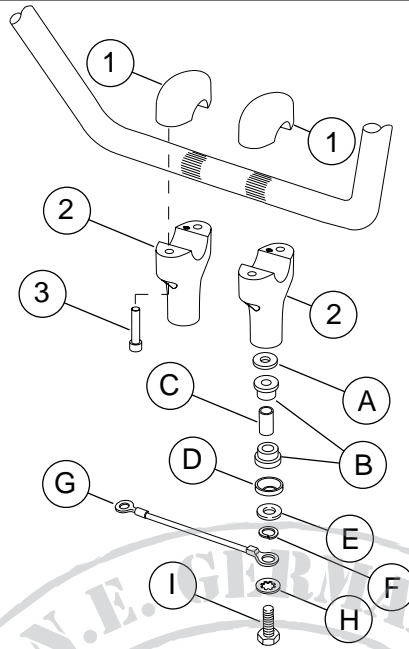

Figure 1. Service Parts for Fat Bar Riser Kit
See Figure 1 and Table 1.
*The upper cup washer (A) must be oriented with the flat side up and the lower cup washer (D) with the flat side down.*
*See Figure 1 for the following procedure.*
1. Align the components as shown, and install the risers (2) to the upper fork bracket. The ground wire (G) and the internal tooth lock washer (H) are located on the right side only. Do not tighten the riser mounting screws (I) at this time.
3. Loosely install riser caps (1) onto the handlebars and risers using four socket head screws (3) as shown.
4. Ensure that the risers stay properly aligned with the handlebar and tighten the riser mounting screws (I) to 50-60 ft-lbs (68-81 Nm).
5. Adjust handlebar to the desired position, ensure that it is centered on the risers, then, starting with the front screws, tighten the four socket head screws (3) to 12-15 ft-lbs (16-20 Nm).